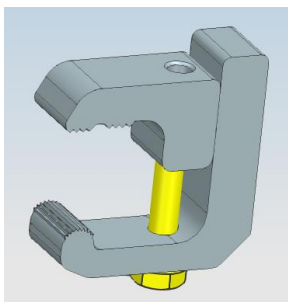

Fig.1
For the vehicles equipped with the factory utility rail, there will be (8) Bottom Brackets(fit for utility rail equipped vehicle only) and (8) Upper Brackets required(fit for utility rail equipped vehicle only) (Fig.1).